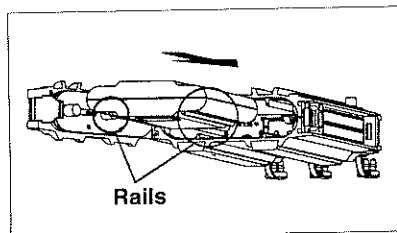

Figure 4
2. Open the front case and insert the battery as shown. (Figure 4)